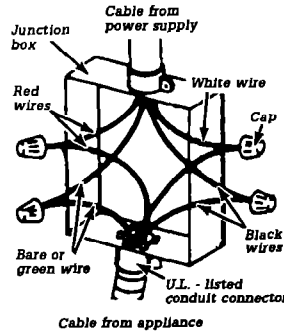

Figure 2
1. Connect the two black wires. Then connect the two red wires. (See Figure 2.)